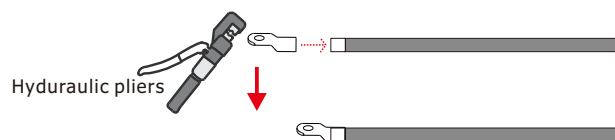

Figure 4.2-2
Step1: Connect the metal terminal and cable, use Hydraulic pliers to tighten them , as shown in Figure 4.2-2.